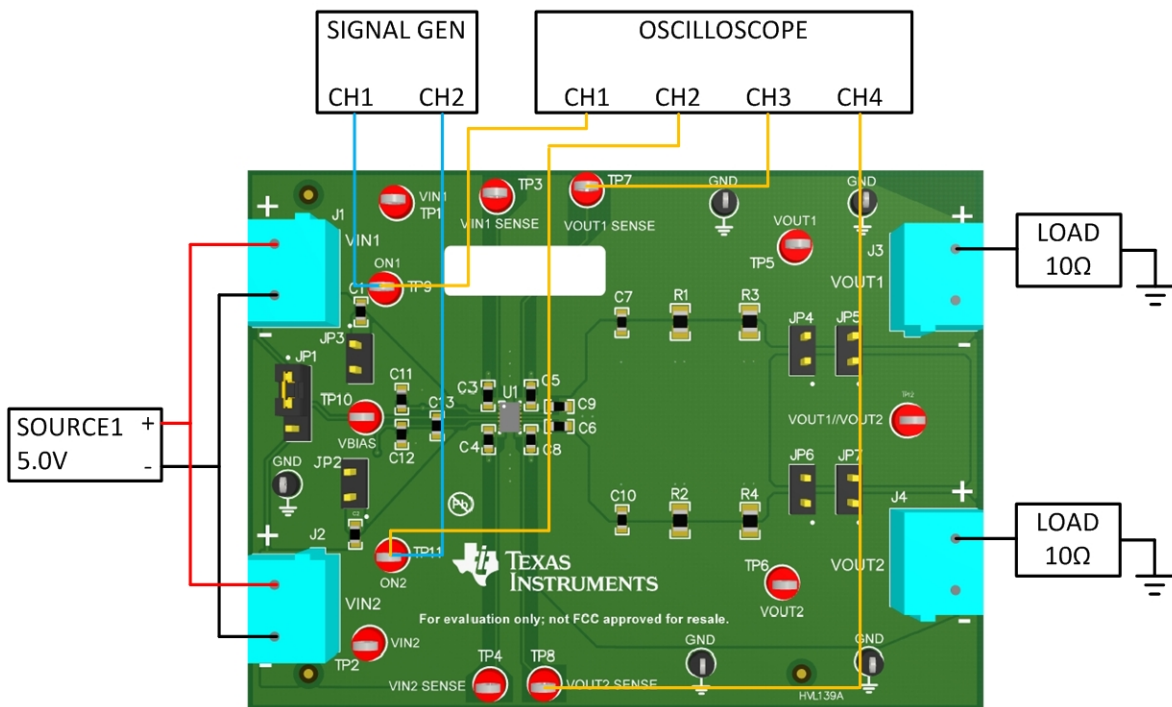

Figure 5. TPS22968NEVM Recommended t_R Test Set Up
2. Set up the EVM per Figure 5